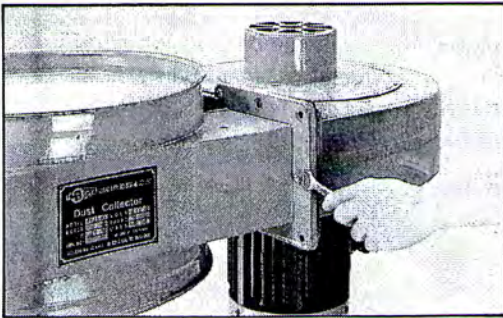

FIG. 5
NEXT MOUNT THE OUTLET PACKING (H) TO THE COLLECTOR BODY AND THE COLLECTOR THE ASSEMBLY USING EIGHT  $5/16" \times 1/2"$  HEX FLANGE HEAD SCREWS, TIGHTEN ALL FASTENERS SECURELY. FIG. 5.